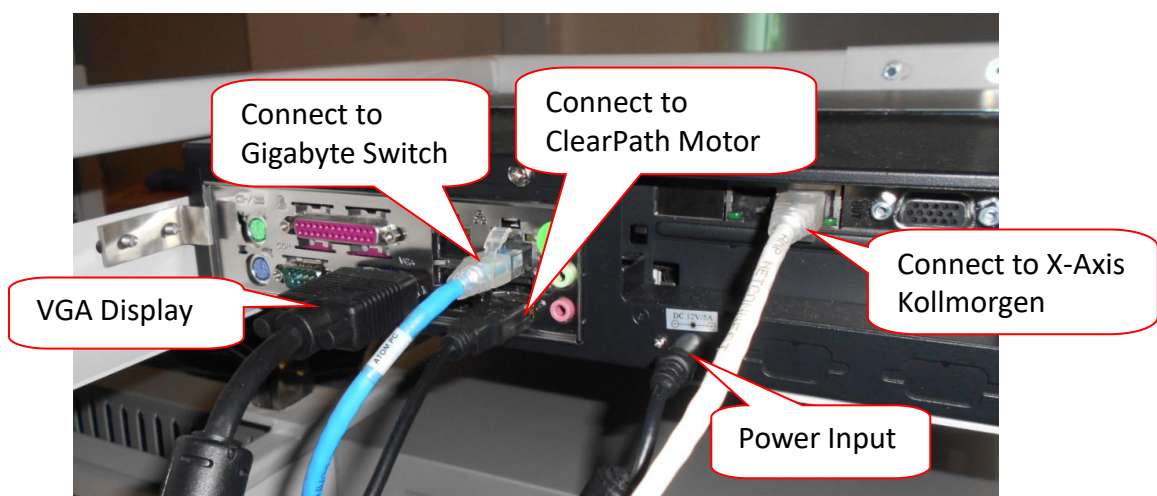

Figure 9 RMS PC (Rear view)
4. Select “Turn off Window Firewall” for “Home or work (private) and Public Network setting”. Click “OK” once done set as Figure 9.